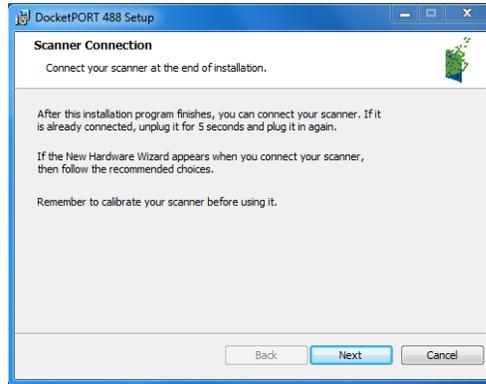

Fig.6
- h) Click **“Next”** to finish installation (Fig. 6).